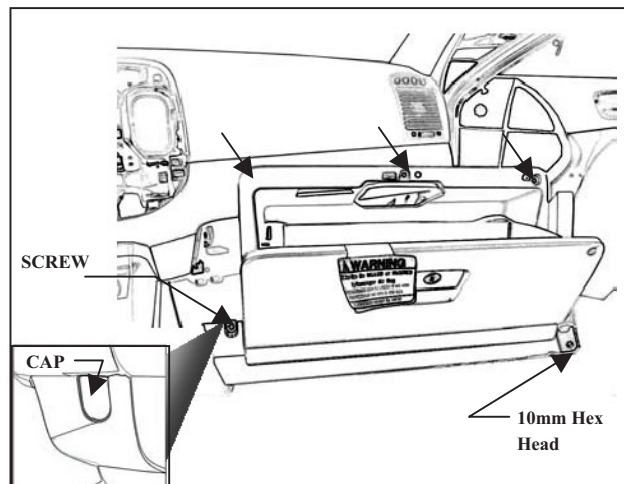

Figure C1
1. Remove the bolt on lower right side of glove box. (Figure C1).
2. Remove cap on lower left side of glove box using the small tip NRT to reveal Phillips screw and remove. (Figure C1 inset).
3. Remove 3 Phillips screws from top of glove box. (Figure C1) and remove glove box.